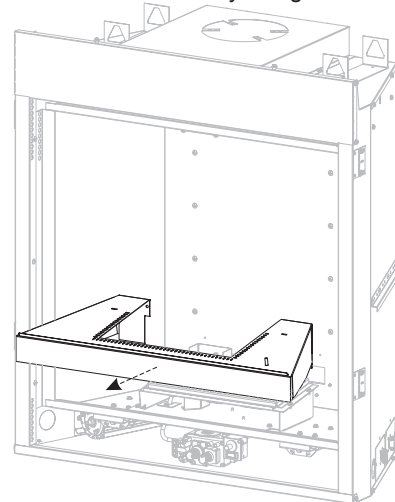

Figure 10
7. Remove modern base cover by lifting off. **See Figure 10.**